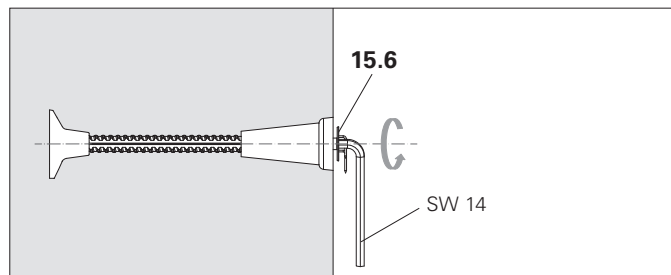

Fig. A2.13b
5. Release Anchor Positioning Stud (15.6) with Allen Key SW 14 and remove. (Fig. A2.13b)